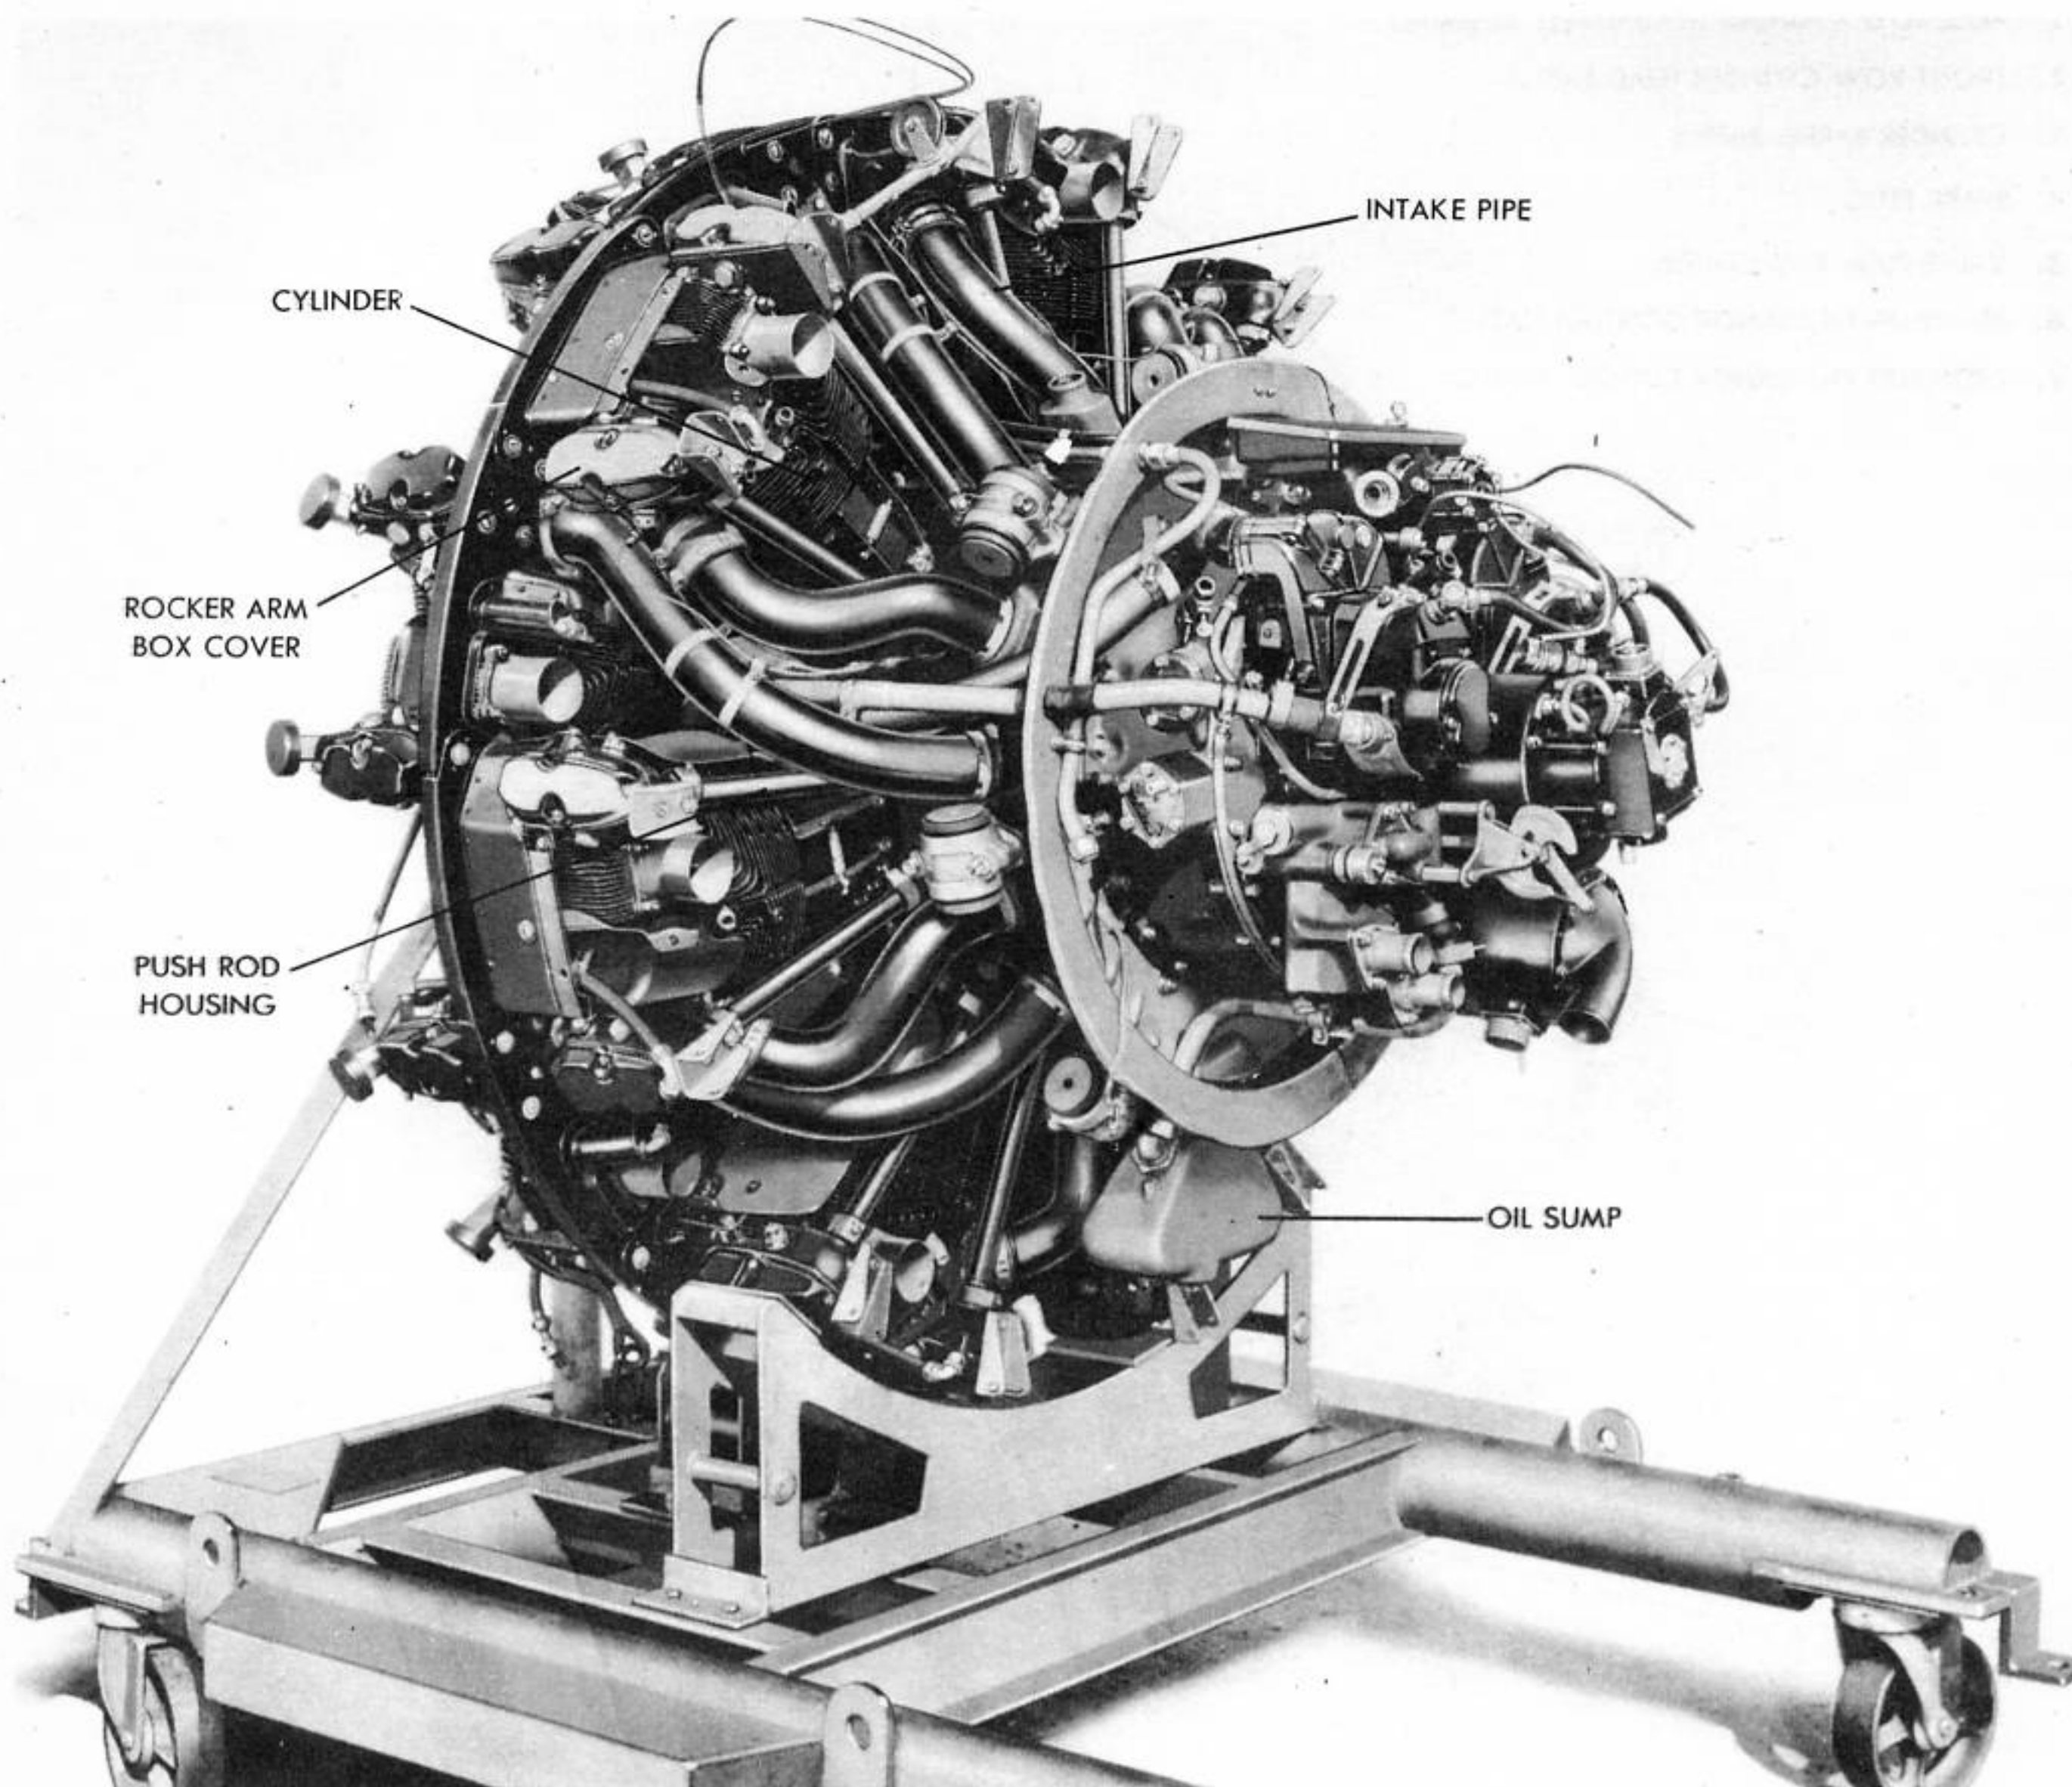

Figure 97 - RIGHT REAR VIEW OF REMOVED ENGINE
8. REMOVAL OF OIL SUMP. (See figure 97.)
9. REMOVAL OF PUSH RODS AND VALVE TAPPETS. (See figure 97.)
(1) Insert the hooked end of the valve tappet circlet removing tool under the retaining circlet, and remove the circlet. Do not attempt to make the circlet jump out of its groove by striking the end of the tappet. Be careful not to lose small parts which will be freed when the circlet is removed.
(2) Withdraw the tappet from its guide.
(3) Push the floating pin out of the slotted end of the tappet and remove the roller and bushing.
10. REMOVAL OF CYLINDER. (See figure 97.)